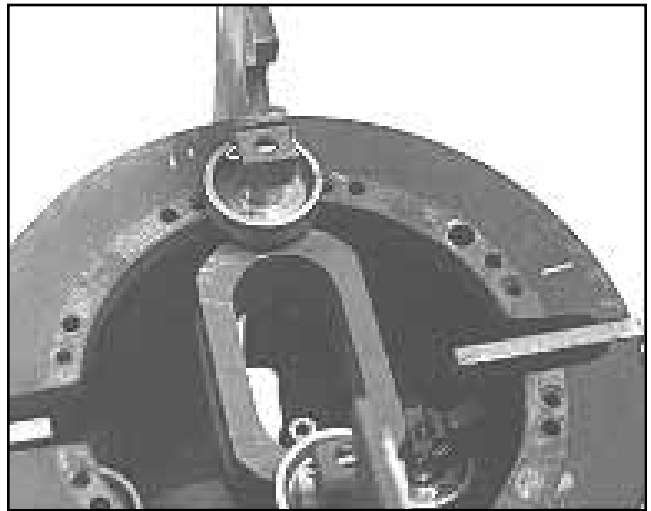

Figure 15
4. The lower blade assembly can now be removed, Figure 15.
5. Place identification marks on the upper blade yoke and rotor, Figure 15, and remove from rotor.